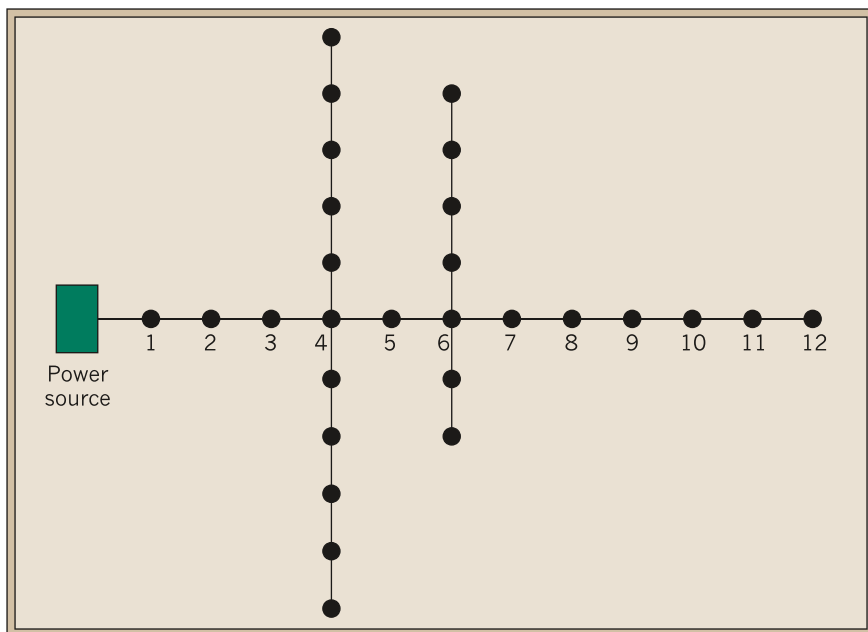
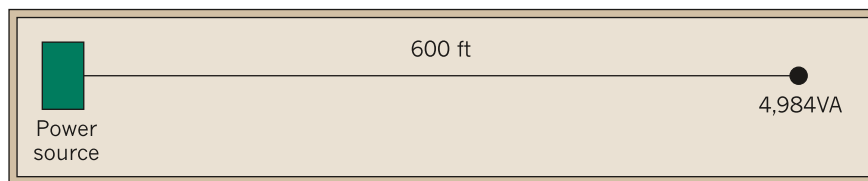

Fig. 1. Shown is a simplified one-line diagram of light pole connections in a Spokane, Wash., park.
Fig. 2. Here, the one-line diagram from Fig. 1 is being modeled as a single-point load.
**Lighting project example.** On many projects, it often becomes necessary to branch out perpendicularly from a single string of luminaires rather than run along a fairly straight and long line. The lighting layout in Spokane's Huntington Park (see **Photo**) is a good example of this type of arrangement. The one-line diagram for this specific project (**Fig. 1**) resembles a tree shape. However, not all designers will
The one-line diagram in Fig. 1 is often mistakenly modeled as shown in Fig. 2. To quickly size the required conductor in this example, a designer might perform the following calculation: